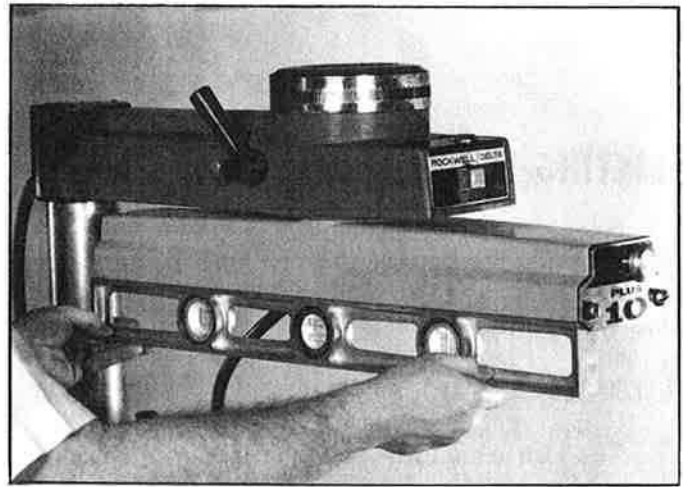

Fig. 4
1. With the cutting head still removed from the track-arm, place a spirit level, against the lower edge of the track, as shown in Fig. 4.